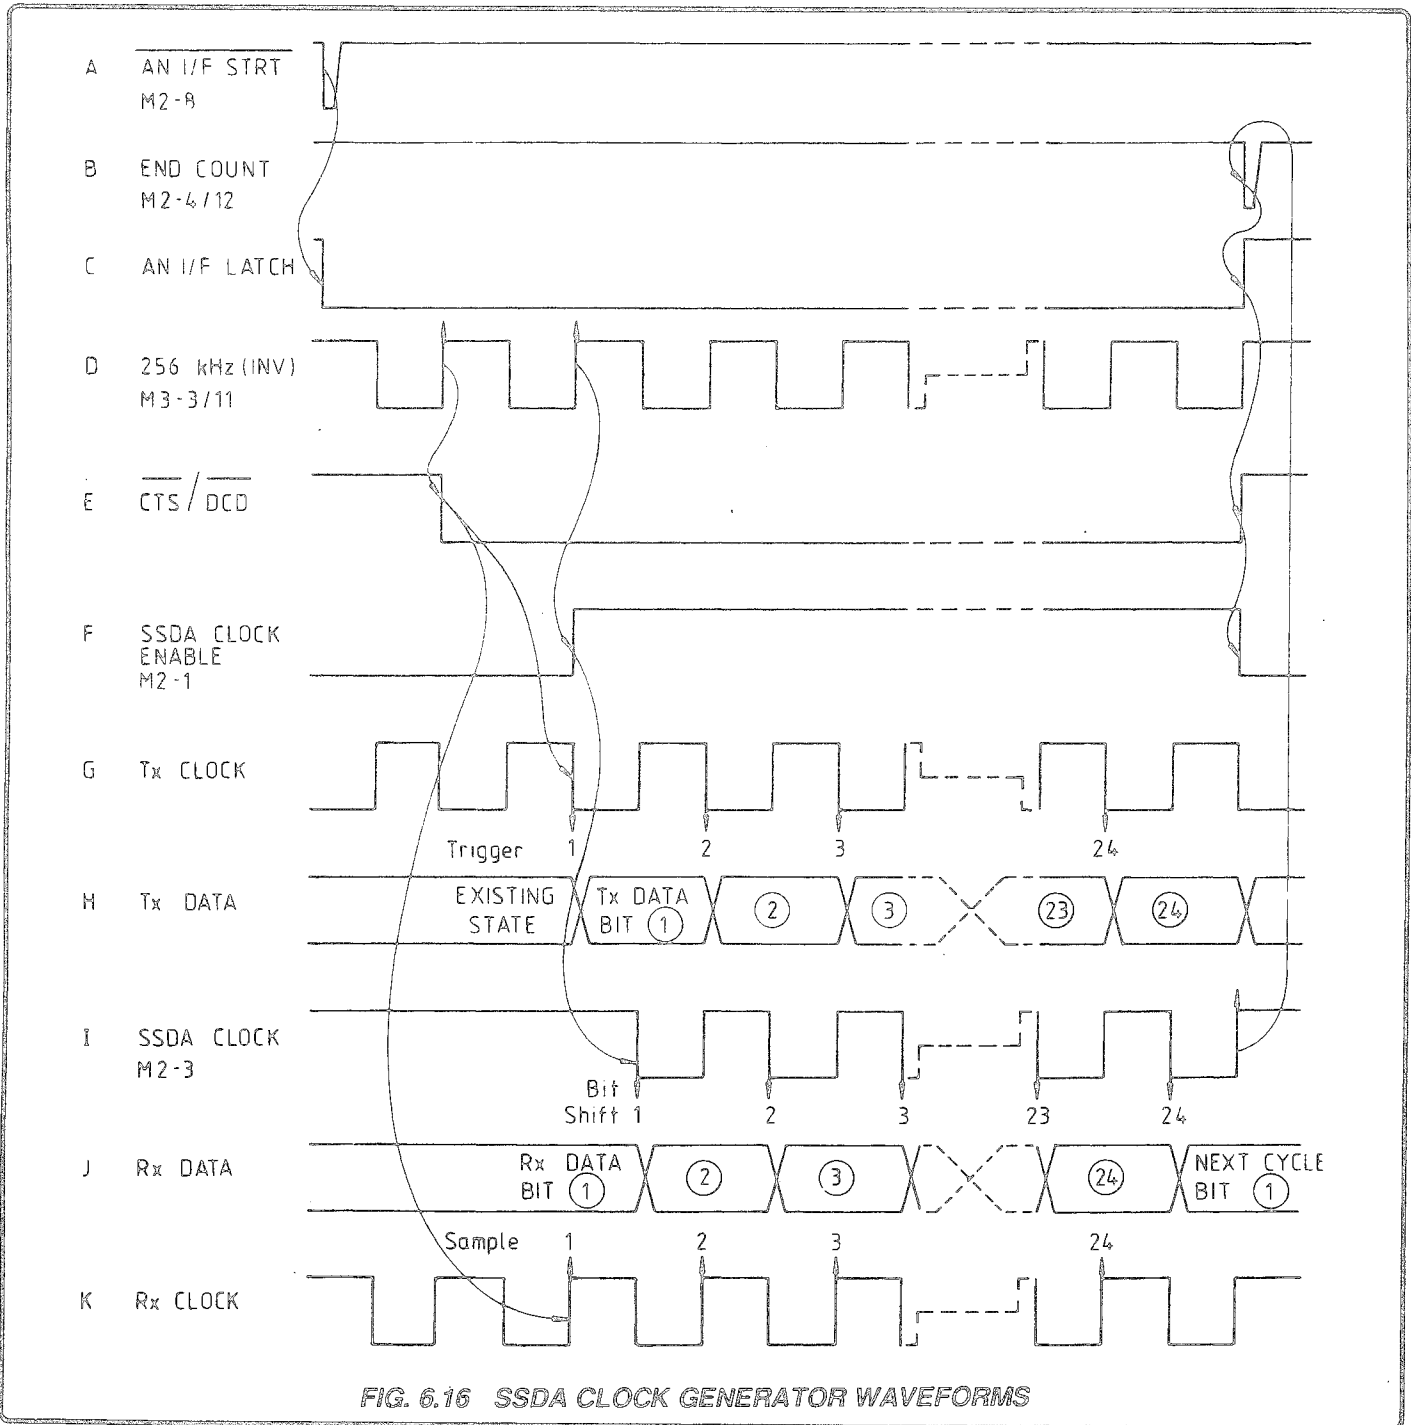

FIG. 6.16 SSDA CLOCK GENERATOR WAVEFORMS
6.4.4.1 SSDA, Tx and Rx Clock Action (Fig. 6.16)
After $\overline{\text{CTS}}$ is set to Logic-0, the negative transition of the first full positive pulse triggers the first serial Tx data bit setup. (Refer to Fig. 6.16 Waveforms G and H).
'Rx CLOCK' is an inverted version of the 256kHz squarewave. After $\overline{\text{DCD}}$ is set to Logic-0, the positive transition of the first full Rx clock cycle triggers the SSDA. The SSDA thus samples the first Rx data bit before the SSDA clock triggers the shift registers. (Fig. 6.16 Waveforms K and J).
'SSDA CLOCK' is also an inverted version of the 256kHz squarewave. The inversion allows approximately 2ms of data setup time for all serial data bits prior to clocking the data along the shift registers. SSDA CLOCK is gated at M2-3 by the action of M3-12 to ensure that the first Rx data is sampled before it is lost by the first bit-shift. 24 clock pulses are counted by M4, allowing 24 bits to be shifted before resetting the Analog Interface Start latch M2-11 (TP3) to Logic-1. (Refer to Fig. 6.16 Waveform I).
(Refer to Fig. 6.16 Waveforms A and C).
At the next rising edge of the inverted 256 kHz (Rx CLOCK) from M43-8 after $\overline{\text{ANI/F STRT}}$, the shift register M3 is clocked but only M3-1 'Q' output changes state to Logic-0. This is applied to the SSDA $\overline{\text{CTS}}$ and $\overline{\text{DCD}}$ inputs, thus releasing the inhibits on the SSDA transmit and receive registers. (Refer to Fig. 6.16 Waveforms D and E).
At the next (second) rising edge of the clock to M3, M3-12 changes to Logic-1. This allows NAND M2-3 to pass 256 kHz clock pulses via buffer M5-12 to the Reference Divider Assembly to shift the serial data string along the analog-control and status registers. (Refer to Fig. 6.16 Waveforms D, F and I).
- ii. NAND M2-5 to rise to Logic-1, re-setting flip-flop M2-12 to prepare for the next ANI/F STRT input. (Refer to Fig. 6.16 Waveforms I, B, C, E and F).